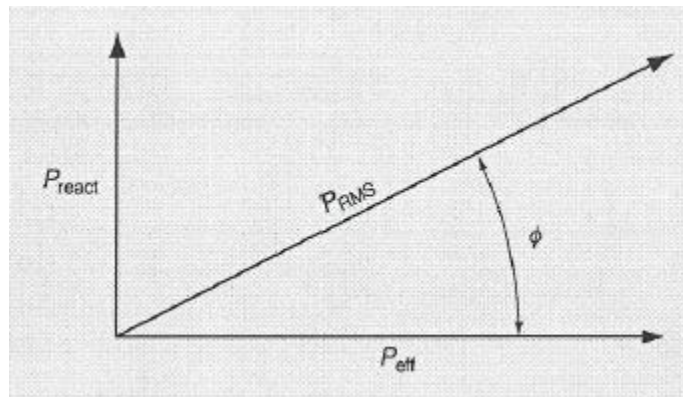

Figure 6.9: Vector for Power-Factor Problems
- 6-55 To solve this problem, you must first sketch two vector diagrams similar to the diagram shown in Figure 6.9. In each diagram, the effective power is a horizontal vector, and the reactive power is a vertical vector. The RMS power is the resultant of the two vectors. The phase angle is the angle from the horizontal to the resultant vector.